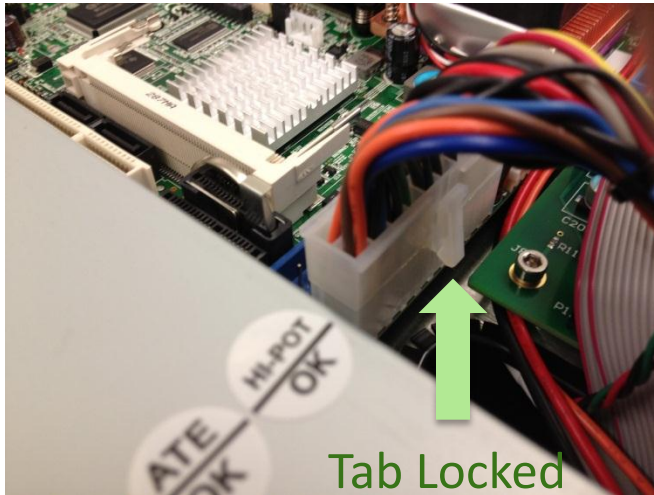

FIGURE 6: PS Cable Locked into PCB
5. Disconnect the Power Supply cable (Figure 6). This cable is locked into the board connection with a locking tab. To remove the cable, depress the tab with a small hand tool like a screwdriver or if possible with your fingers, then pull straight up on the cable to disconnect